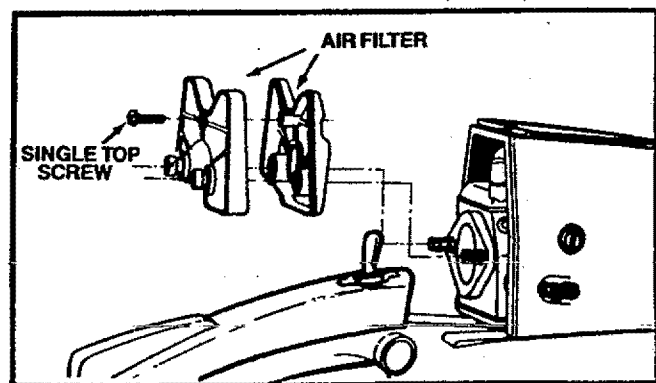

Figure 43
4. Remove the air filter carefully. Figure 43.